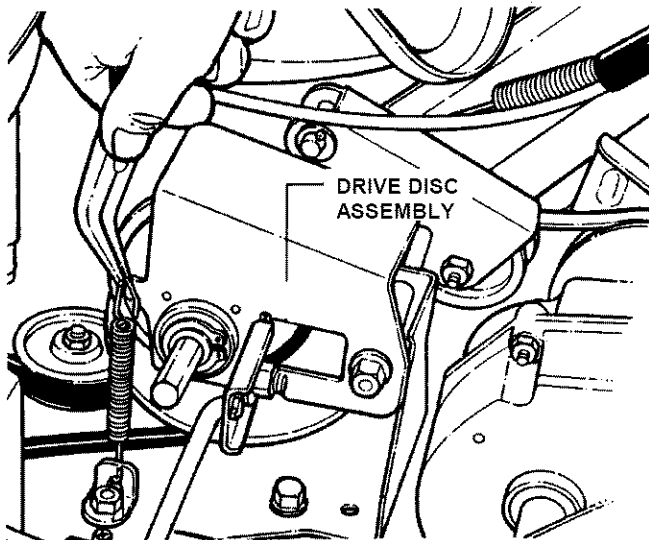

FIGURE 4.12
- Using needle nose pliers, unhook the drive spring and slide the driven disc assembly off the hex shaft. See Figure 4.12.